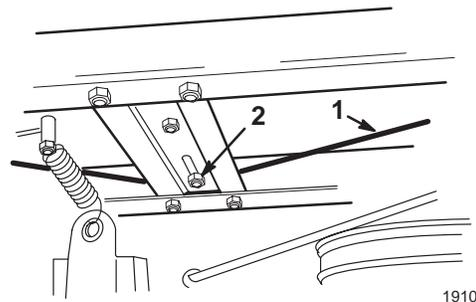

Figure 8
2. Check the cable tension. The cable should be taut and have 1/2 in. (13 mm) movement when you apply a slight pressure to the cable (Fig. 8).
5. Slide the guide sideways as needed for proper tension (Fig. 8).